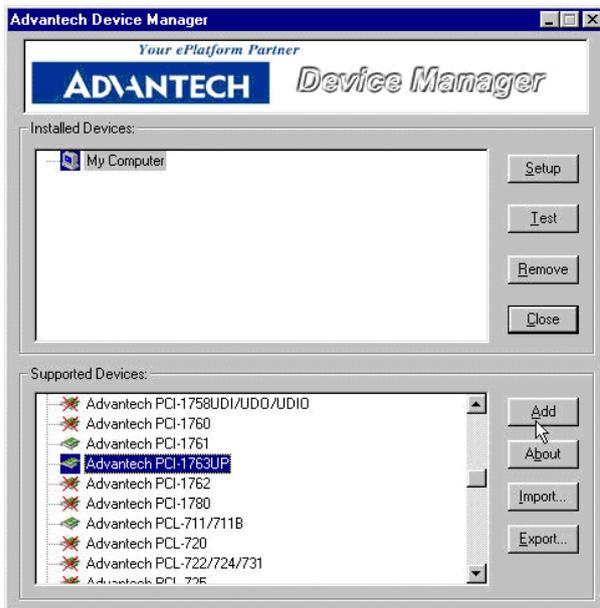

Figure 2.6: The I/O Device Manager Dialog Box
Step 2: On the *Device Manager* program window, you can see the *I/O Device Manager* dialog box (Fig. 2-6). You can then view the device(s) already installed on your system (if any) on the *supported Devices* list box.